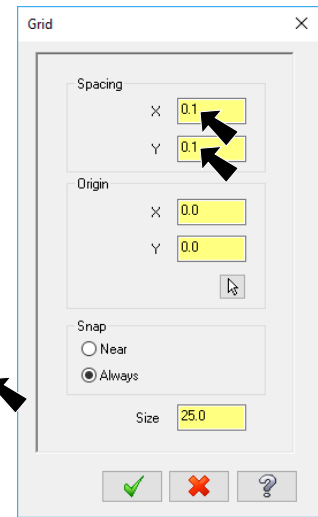

Fig. 35
Step 1. Use **Alt-G** to display Grid dialog box, Fig. 35